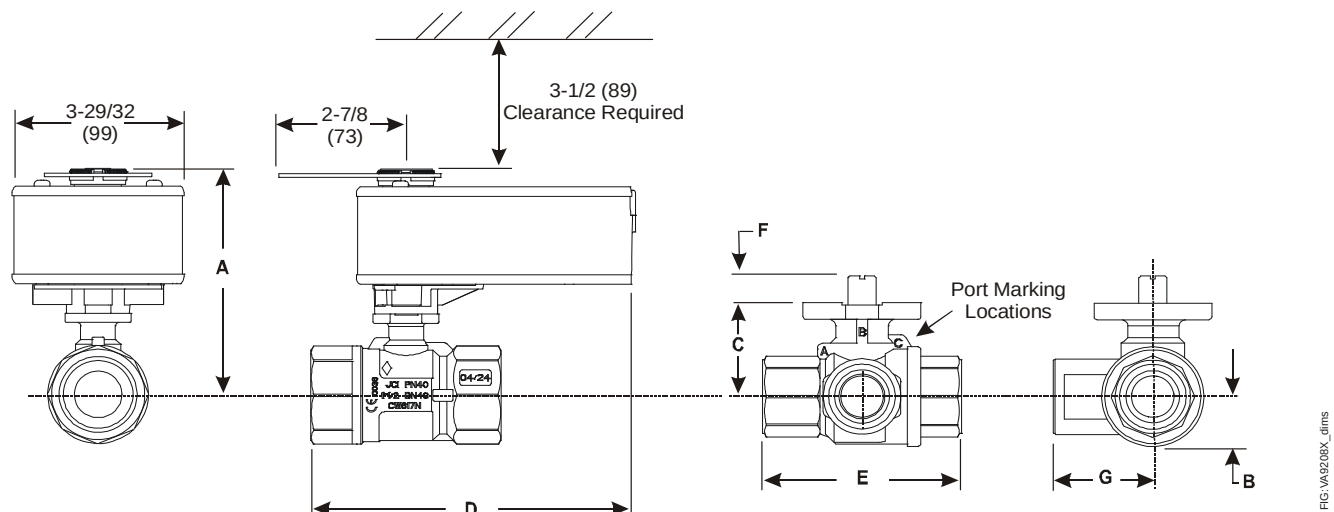

Figure 2: Spring Return VA9208 Actuated VG1241, VG1245, VG1841, and VG1845 Series Ball Valve Dimensions, in. (mm)
See Figure 2 and Table 1 for valve actuator dimensions.
1. Port A must always be connected to the coil (see Figure 2).
1. Port A must always be connected to the coil (See Figure 2).